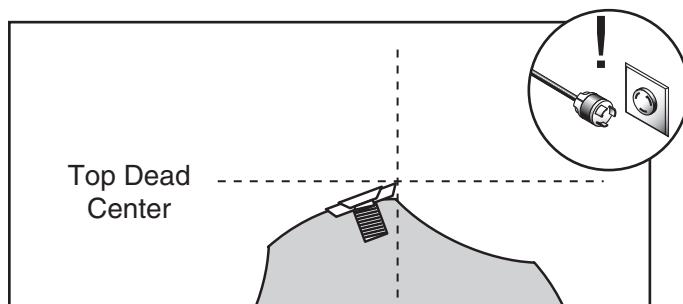

Figure 12. Cutterhead insert at top-dead-center.
3. Place a straightedge on the outfeed table so it extends over the cutterhead and rotate the cutterhead pulley until one of the carbide inserts is at top-dead-center (TDC), as shown in **Figure 12**.